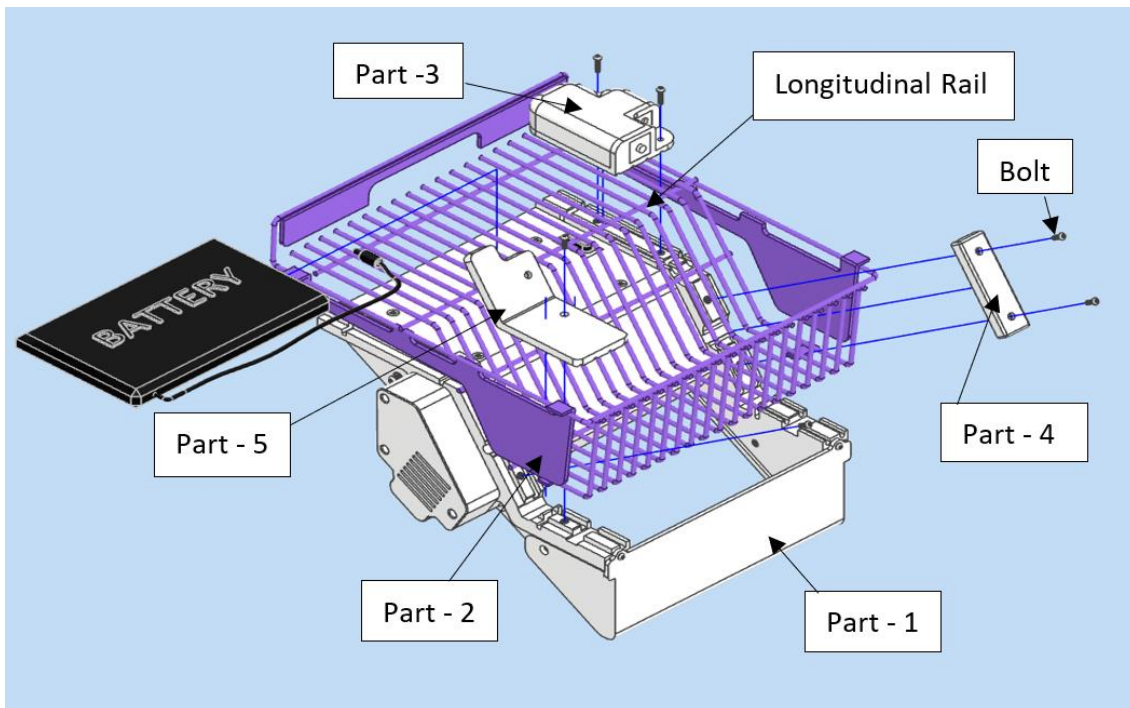

Figure 41. Different parts of the food control module
8.1. First mount part 2 on part 1, as shown in **Figure 41**.